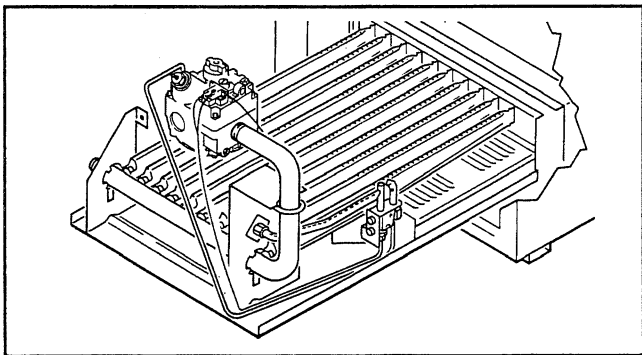

Figure 38. Burner Tray Removal
5. Remove the two screws securing the anti-rotation bracket to the inner panel, and the three screws attaching the manifold bracket. Slide the burner tray out of the heater (see Figure 38).